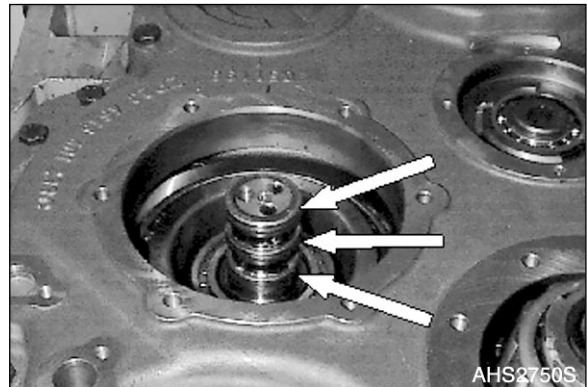

Figure 327
24. Grease and align rectangular rings (3x, Figure 327) and align them centrally.